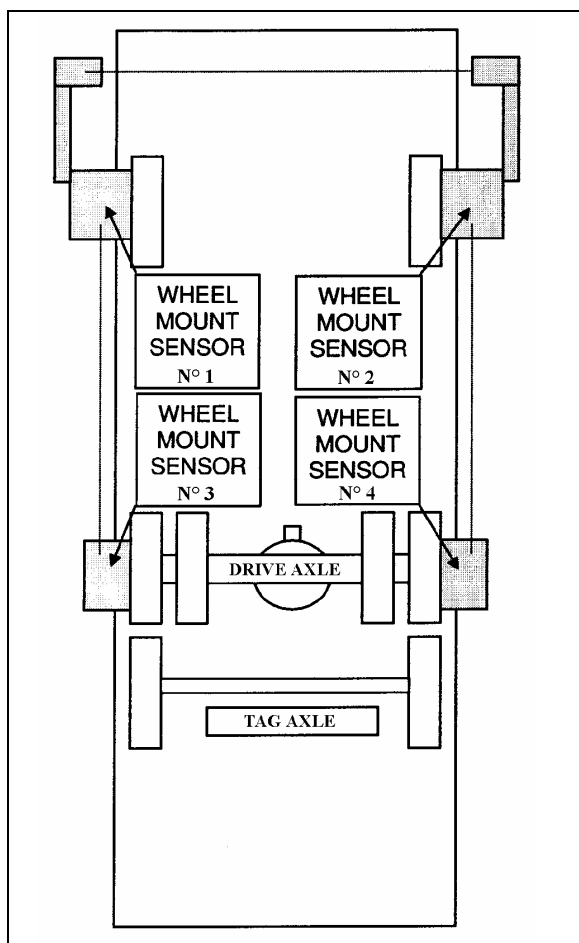

FIGURE 7: DRIVE AXLE ALIGNMENT
- With the system installed as for front end alignment (fig.7), adjust drive axle according to specifications' chart below.
3. Install wheel mount sensors on front and drive axle wheels (fig. 7). Adjust front wheels according to paragraph: "Front End Alignment" in Section 16: Suspension.
See reference numbers on wheel mount sensors (fig.7).
Reinstall wheel mount sensors as shown in figure 7. For example, the sensor from the right side of the front wheel is mounted on the right side of the tag axle. For corresponding wheel mount sensor reference numbers, refer to figure 7.